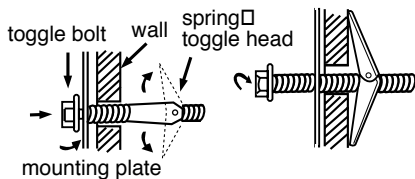

Figure 29
**NOTE:** Be sure to leave at least one wall-thickness of space between the head of the toggle bolt and the spring toggle head so that the spring toggle can open on the inside of the wall, as shown in Figure 29. You may have to pull out slightly on the bracket to put tension on the toggles.